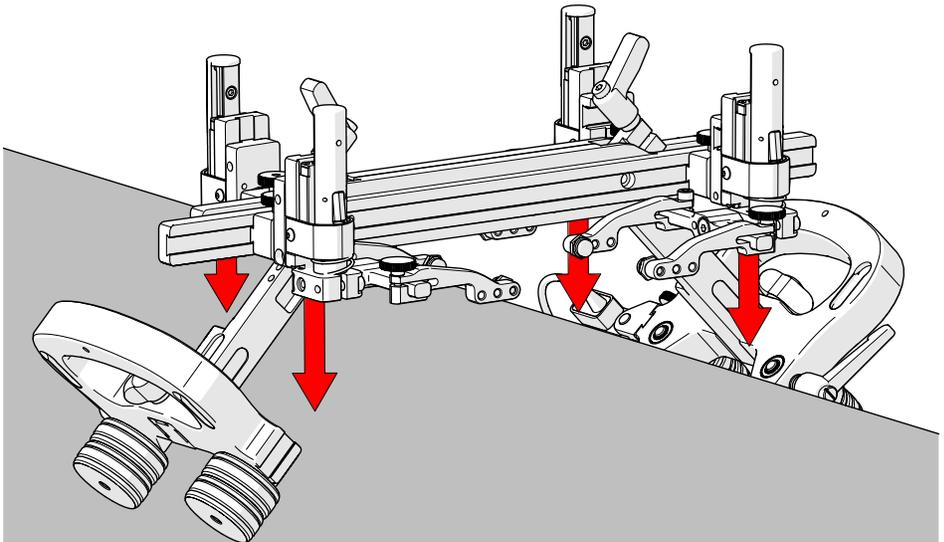

Fig. 100 - Adjust probe holder vertical adjustment
10. Adjust the height of the probe holders (Fig. 100) using the vertical adjustment knob (see "Probe Holder Vertical Adjustment" on page 15).